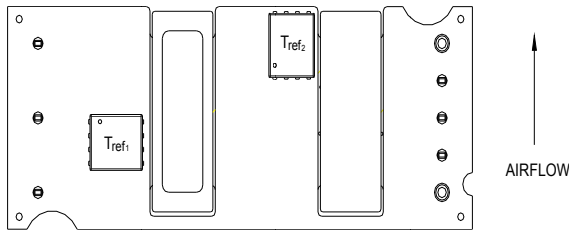
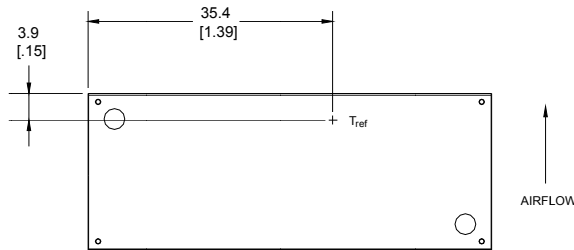

Figure 13. T_{ref} Temperature Measurement Locations for Open Frame Module.
Figure 14. T_{ref} Temperature Measurement Location for Module with Heat plate.
To provide protection under certain fault conditions, the unit is equipped with a thermal shutdown circuit. The unit will shutdown if the thermal reference point, T_{ref} , exceeds 135 $^{\circ}C$ (Figure 13, typical) or 120 $^{\circ}C$ (Figure 14, typical), but the thermal shutdown is not intended as a guarantee that the unit will survive temperatures beyond its rating. The module will automatically restart upon cool-down to a safe temperature.
The thermal reference points, T_{ref1} , & T_{ref2} , used in the specifications for open frame modules are shown in Figure 13. For reliable operation these temperatures should not exceed 120 °C and 124 °C
The thermal reference point, T_{ref} , used in the specifications for modules with heatplate is shown in Figure 14. For reliable operation this temperature should not exceed 98 °C.